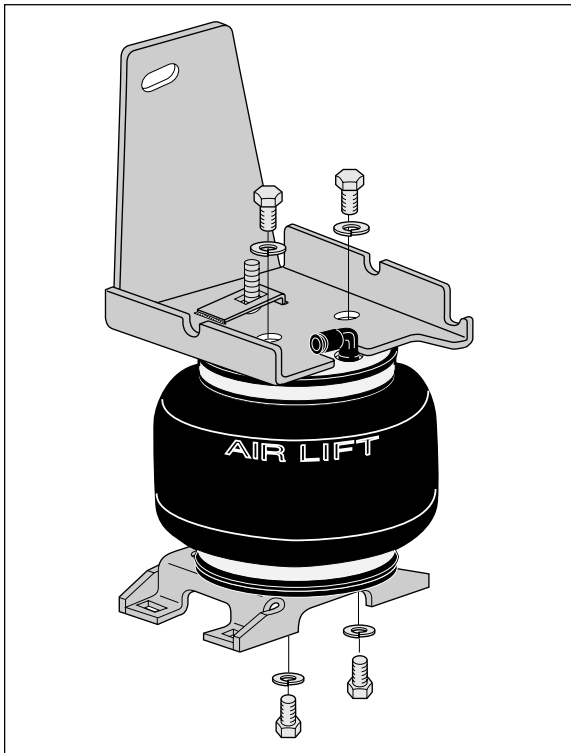

Figure 3
5. Use the lower bracket template provided on page 9 to determine the proper mounting location for the bellow. Use the holes marked "C" for mounting. Attach lower bracket (C) and backer plate to the bottom of the bellow. Attach so that the bracket offsets to the outside of the axle. Use two bolts (F) and lock washers (L). See Figure 3.